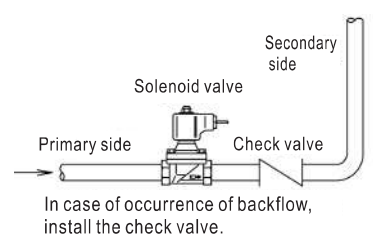

Fig.4 Steam line application
5. If the valve is used for steam and the secondary pressure is negative pressure when the valve is closed, install vacuum regulating valve (vacuum breaker) on the secondary side of solenoid valve (see Fig.4).